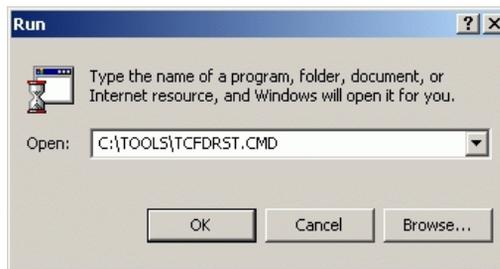

Figure 65 Run Dialog Box
- a. At the server's Windows 2000 desktop (Figure 13), click *Start* at the left side of the task bar, then select the *Run* option. The *Run* dialog box displays (Figure 65).